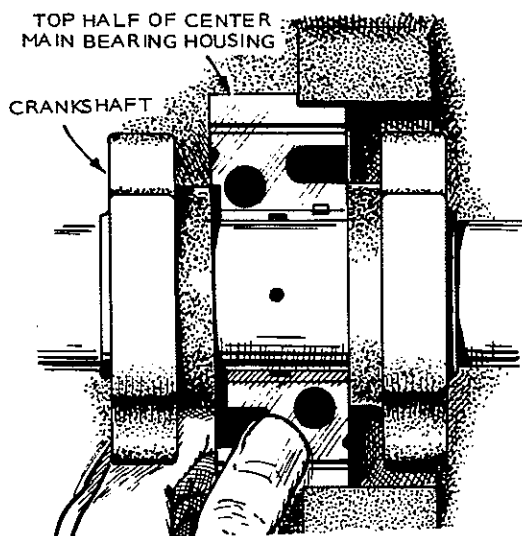

FIGURE 17-4. CATCHING CENTER MAIN BEARING SUPPORT
6. Remove crankshaft through rear opening in crankcase. On four cylinder J-Series models, catch the upper half of the center main bearing support as it slides off its mounting surface. See Figure 17-4.